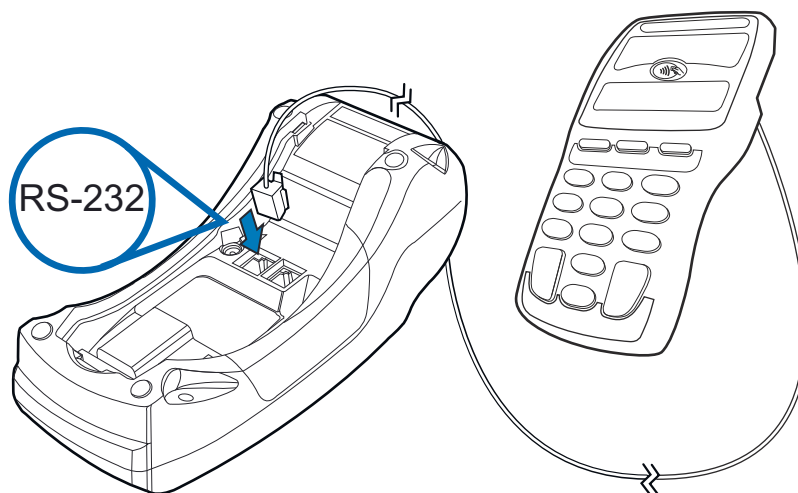

Figure 25 VX 520 D/E Sample PIN Pad Connection
- 3 Insert the larger RJ-45-type connector on the other end of the PIN pad cable into the PIN pad serial port on the terminal. **Figure 25** provides an example of a smart card reader and PIN pad connection to the PIN pad serial port.